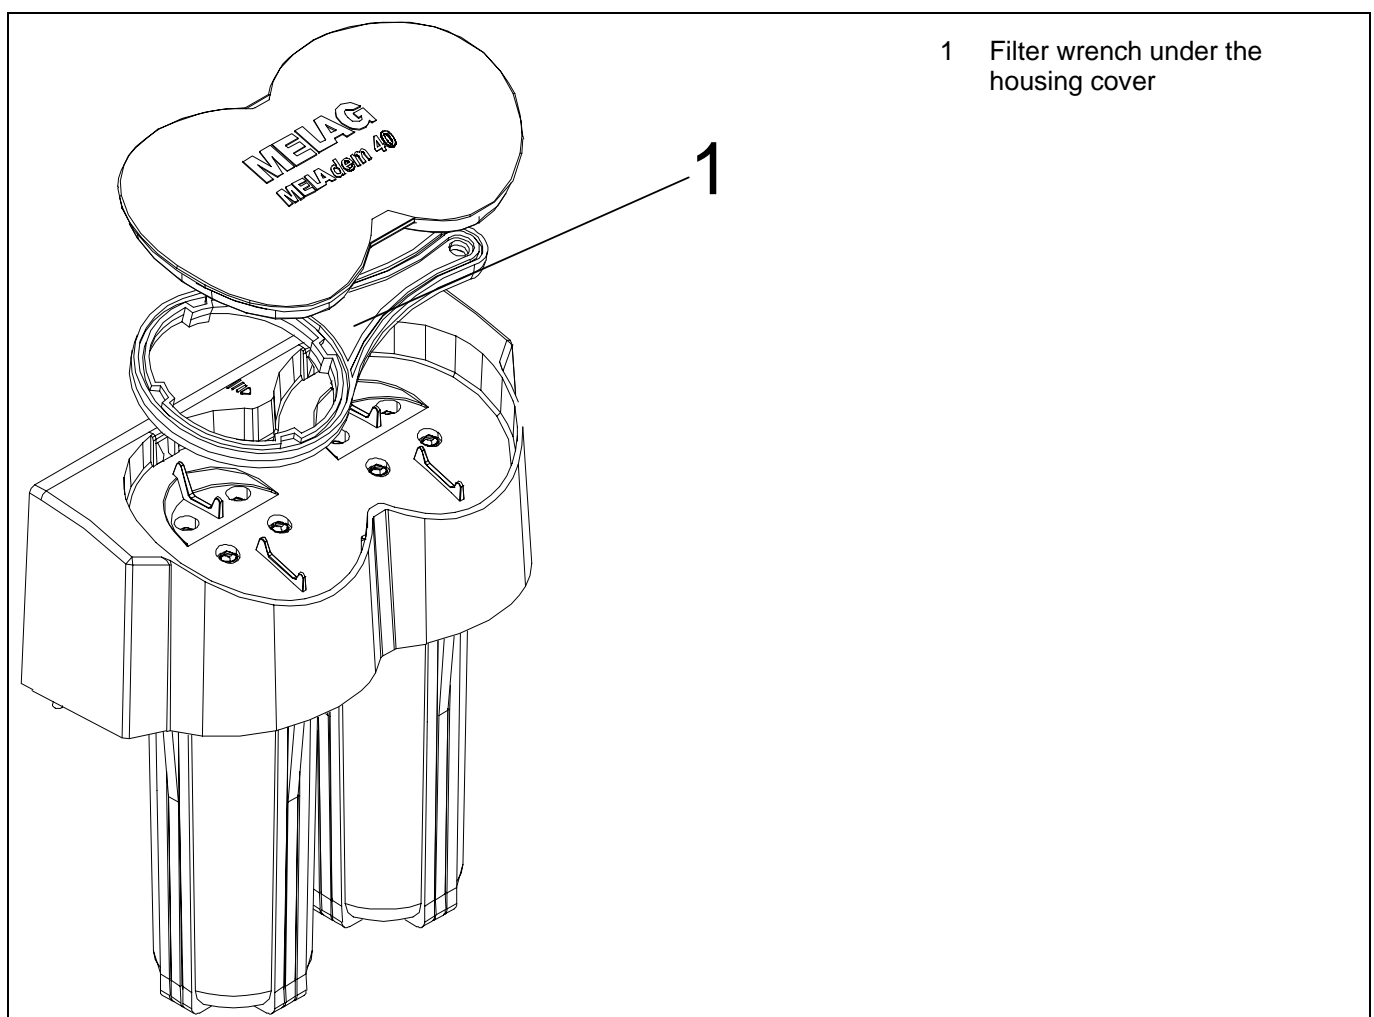

Figure 17: Removing the filter wrench
- Remove the wrench from the MELAdem[®] 40 (see Figure 17).